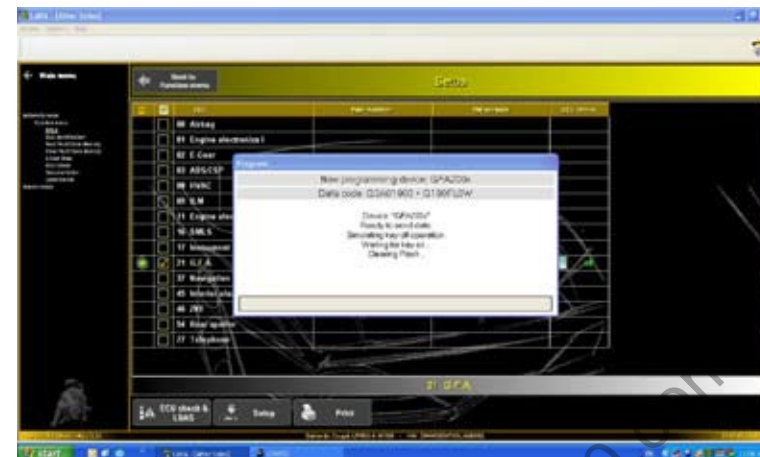

Fig.114
- The system opens LDAS automatically, which will also update the GFA control unit automatically (**Fig.114**).